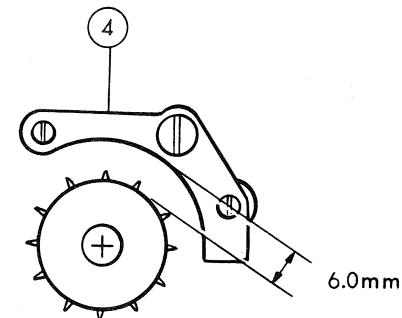

Fig. 21
5. Turn the main knob slowly to “”, and adjust by sliding ⑨ left and right, so that the space between ④ and first sprocket is approximately 6 mm when ⑨ touches ⑯. (See Fig. 21)